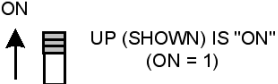

Figure 11-3: Decibel Level Sound Output Settings
1. The horn associated with the optional Horn & Strobe Annunciator has a standard setting of 87 dB from the factory and the switch (Figure 11-3) is set to the OFF position.